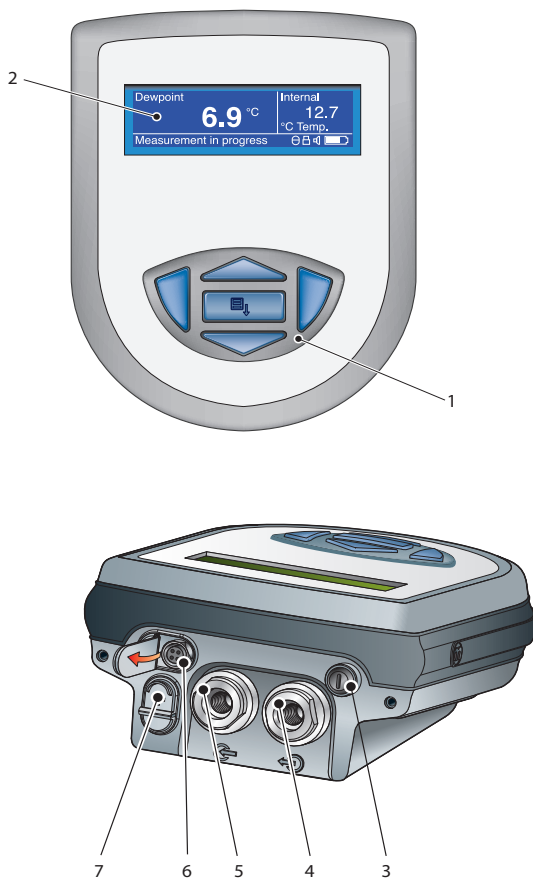
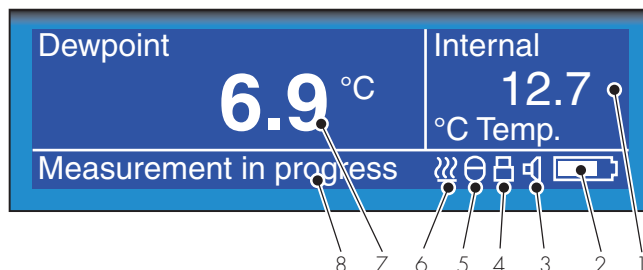

Figure 2.1 - User connections controls and indicators
Figure 2.3 - Instrument display
Figure 2.1 shows the layout of these controls and Table 2.1 describes their respective operational functions.
The graphics display and the associated function keypad (Figure 2.1) form the operator interface of the equipment. Figure 2.3 shows all the elements of a typical display screen after the instrument's Initialization period has completed.
During this period the internal sensor is heated to approximately 160°F to dry it out and the real time value of the internal temperature is indicated in the secondary display area. During this period gas will be flowing through the sensor and can be externally regulated to meet the instrument's flow requirements. The initializing icon (item 6 on Figure 2.3) is displayed in the status area. The primary display area provides a count down clock display indicating how much time is left in the initialization cycle. The keyboard, with the exception of the Scroll up and Scroll down keys is locked out, as indicated by the keyboard lock icon (Item 4 on Figure 2.3), until the initialization period has expired.